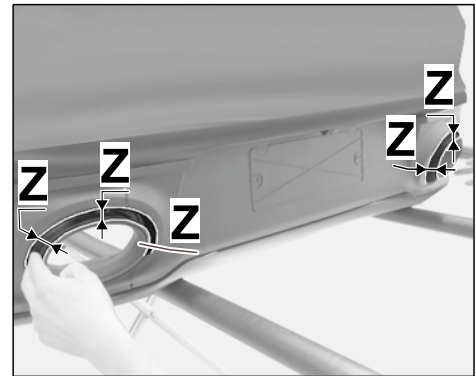

Figure 12
- 3.4.2 Turn the rear apron and check that the gap = "dimension Z" between the new sport tailpipes and exhaust pipe cover (rear apron – left and right side of vehicle) is symmetrically constant (⇒ *Figure 12*).